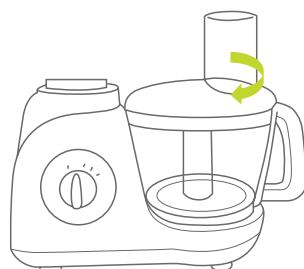

Fig. 14
2. Holding the cover by the feed tube, fit the cover by rotating clockwise firmly until the cover bowl and the base unit interlock. (Fig.14)